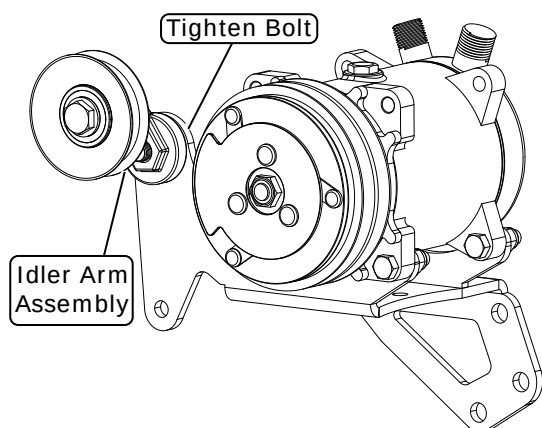

Figure 1
1. Place the compressor onto the bracket with tabs "B," "C," "F" and "G" aligning to the front of the bracket as shown in Photos 1 and 2, below. Secure the compressor using (4) 3/8-16 x 1 1/2" hex bolts and (4) 3/8-16 locknuts through all (4) lower compressor tabs. **NOTE: Vintage Air recommends using only Dayco, Gates or Goodyear brand reinforced V-belts with this compressor bracket kit. A compressor belt length of 54 7/8" was used. However, belt lengths may vary depending on the accessories present and the diameter of the water pump, crankshaft, alternator and power steering pulleys.**
2. Tension the idler arm using a 1" wrench, and tighten the rear bolt with a 3/4" wrench (See Figure 1 and Photo 3, below).